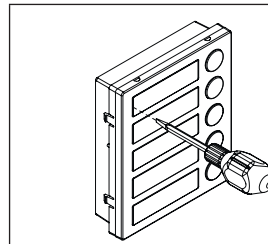

Fig. 4
- Insert the screwdriver (flat side) into the card-holder hole as shown in **Fig. 4**;